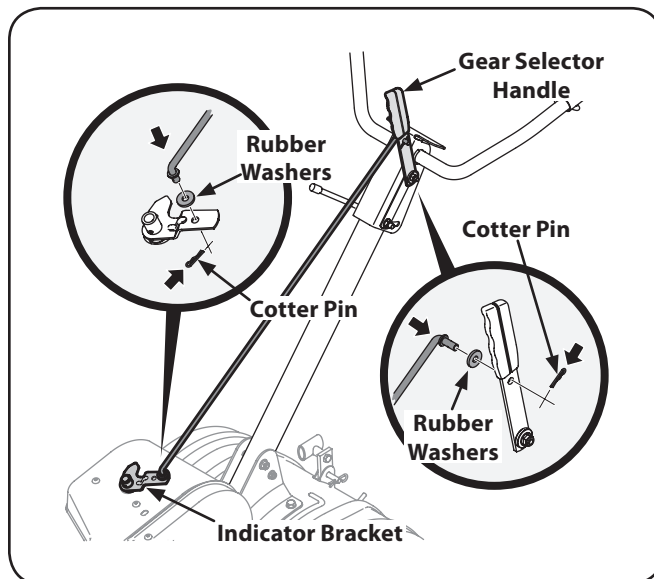

Figure 3-7
3. Insert the shorter (angled) end of the control rod through the indicator bracket on the shift cover and secure with the cotter pin that was previously removed. See Fig. 3-7.
4. Insert the longer end of the control rod through the hole in the gear selector handle and secure with the cotter pin. See Fig. 3-7.